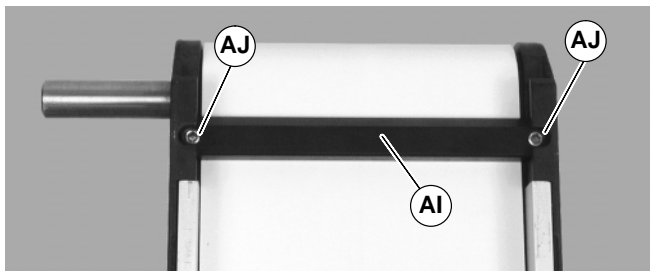

Figure 18
1. If equipped, remove bottom wipers (AI of Figure 18): Remove fastening screws (AJ) then remove wiper (AI).